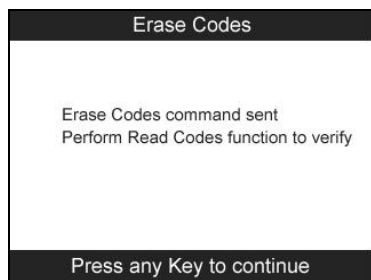

Figure 4.29
- 3) If the erase command is sent successfully, the screen will show as below (Figure 4.29). Press any button to continue. To make sure codes are erased clearly, run **Read Codes** again.